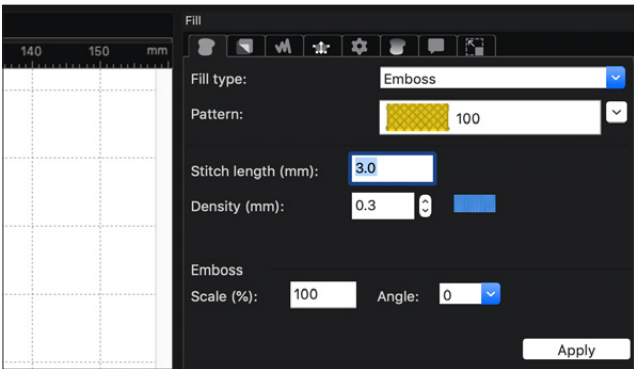

Figure 59
4. Next, you can customize the fill type pattern, stitch length, and density in the complex fill pane. Click apply. **See Figure 59.**